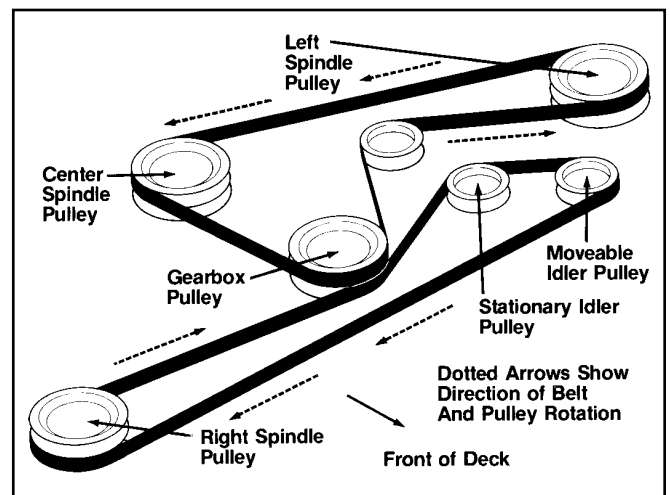

Figure 4-6
Belt should be visually inspected every 100 hours or so for wear and serviceability. To replace a belt, relieve tension on appropriate idler pulley, remove old belt and insert new belt following pattern indicated (Fig. 4-6). The decks, models 923011, 924571, 923243 and 924563, have double pulleys over blade spindle shafts. The belt for the right blade goes on the lower pulley. The belt for the center and left blades goes on the upper pulleys. Belt routing on Models 924175 (640), 625040 (6400), and 923078 (602D) decks are same, except there are single, not double, pulleys